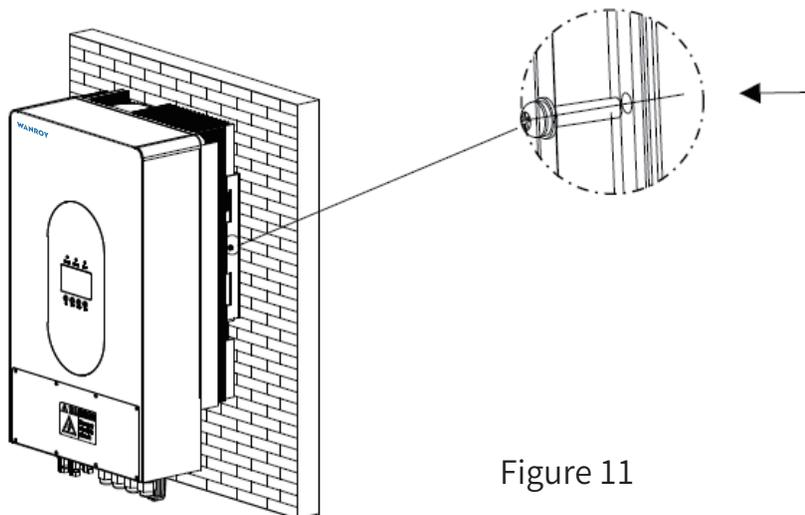

Figure 11
- After confirming that the inverter is firmly fixed, insert and lock the two M4 security screws on the left and right sides in turn to prevent the inverter from falling off from the bracket (as figure 11).